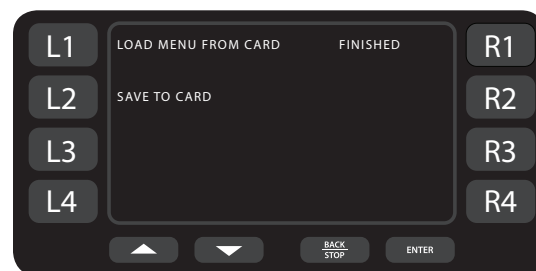

Figure 16: Loading...Finished
2. Press the R1 soft key to access the Load Menu screen (Figure 16).
4. Press the L1 soft key (Figure 16).
4. Press the L2 soft key (Figure 16).